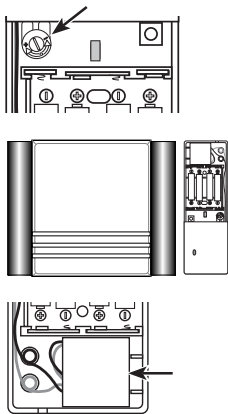

Figure 5
- Turn the microphone sensitivity knob inside chime extender clockwise to increase microphone sensitivity (see Figure 5).
- Move the chime extender to different positions around the existing chime (see Figure 5).
- Remove the microphone from chime extender by gently prying microphone out of chime extender and routing the wires through the small slot in chime extender (see Figure 5). Attach microphone to existing chime using double-sided tape. *Note:* Do not mount microphone to chime bars and make sure the small hole in the microphone is not covered with double-sided tape.
6. **Adjust sensitivity.** Once the chime and chime extender are working correctly, reduce the microphone sensitivity to the least sensitive position that allows for reliable activation to minimize false activation from other household noises (see Figure 5).